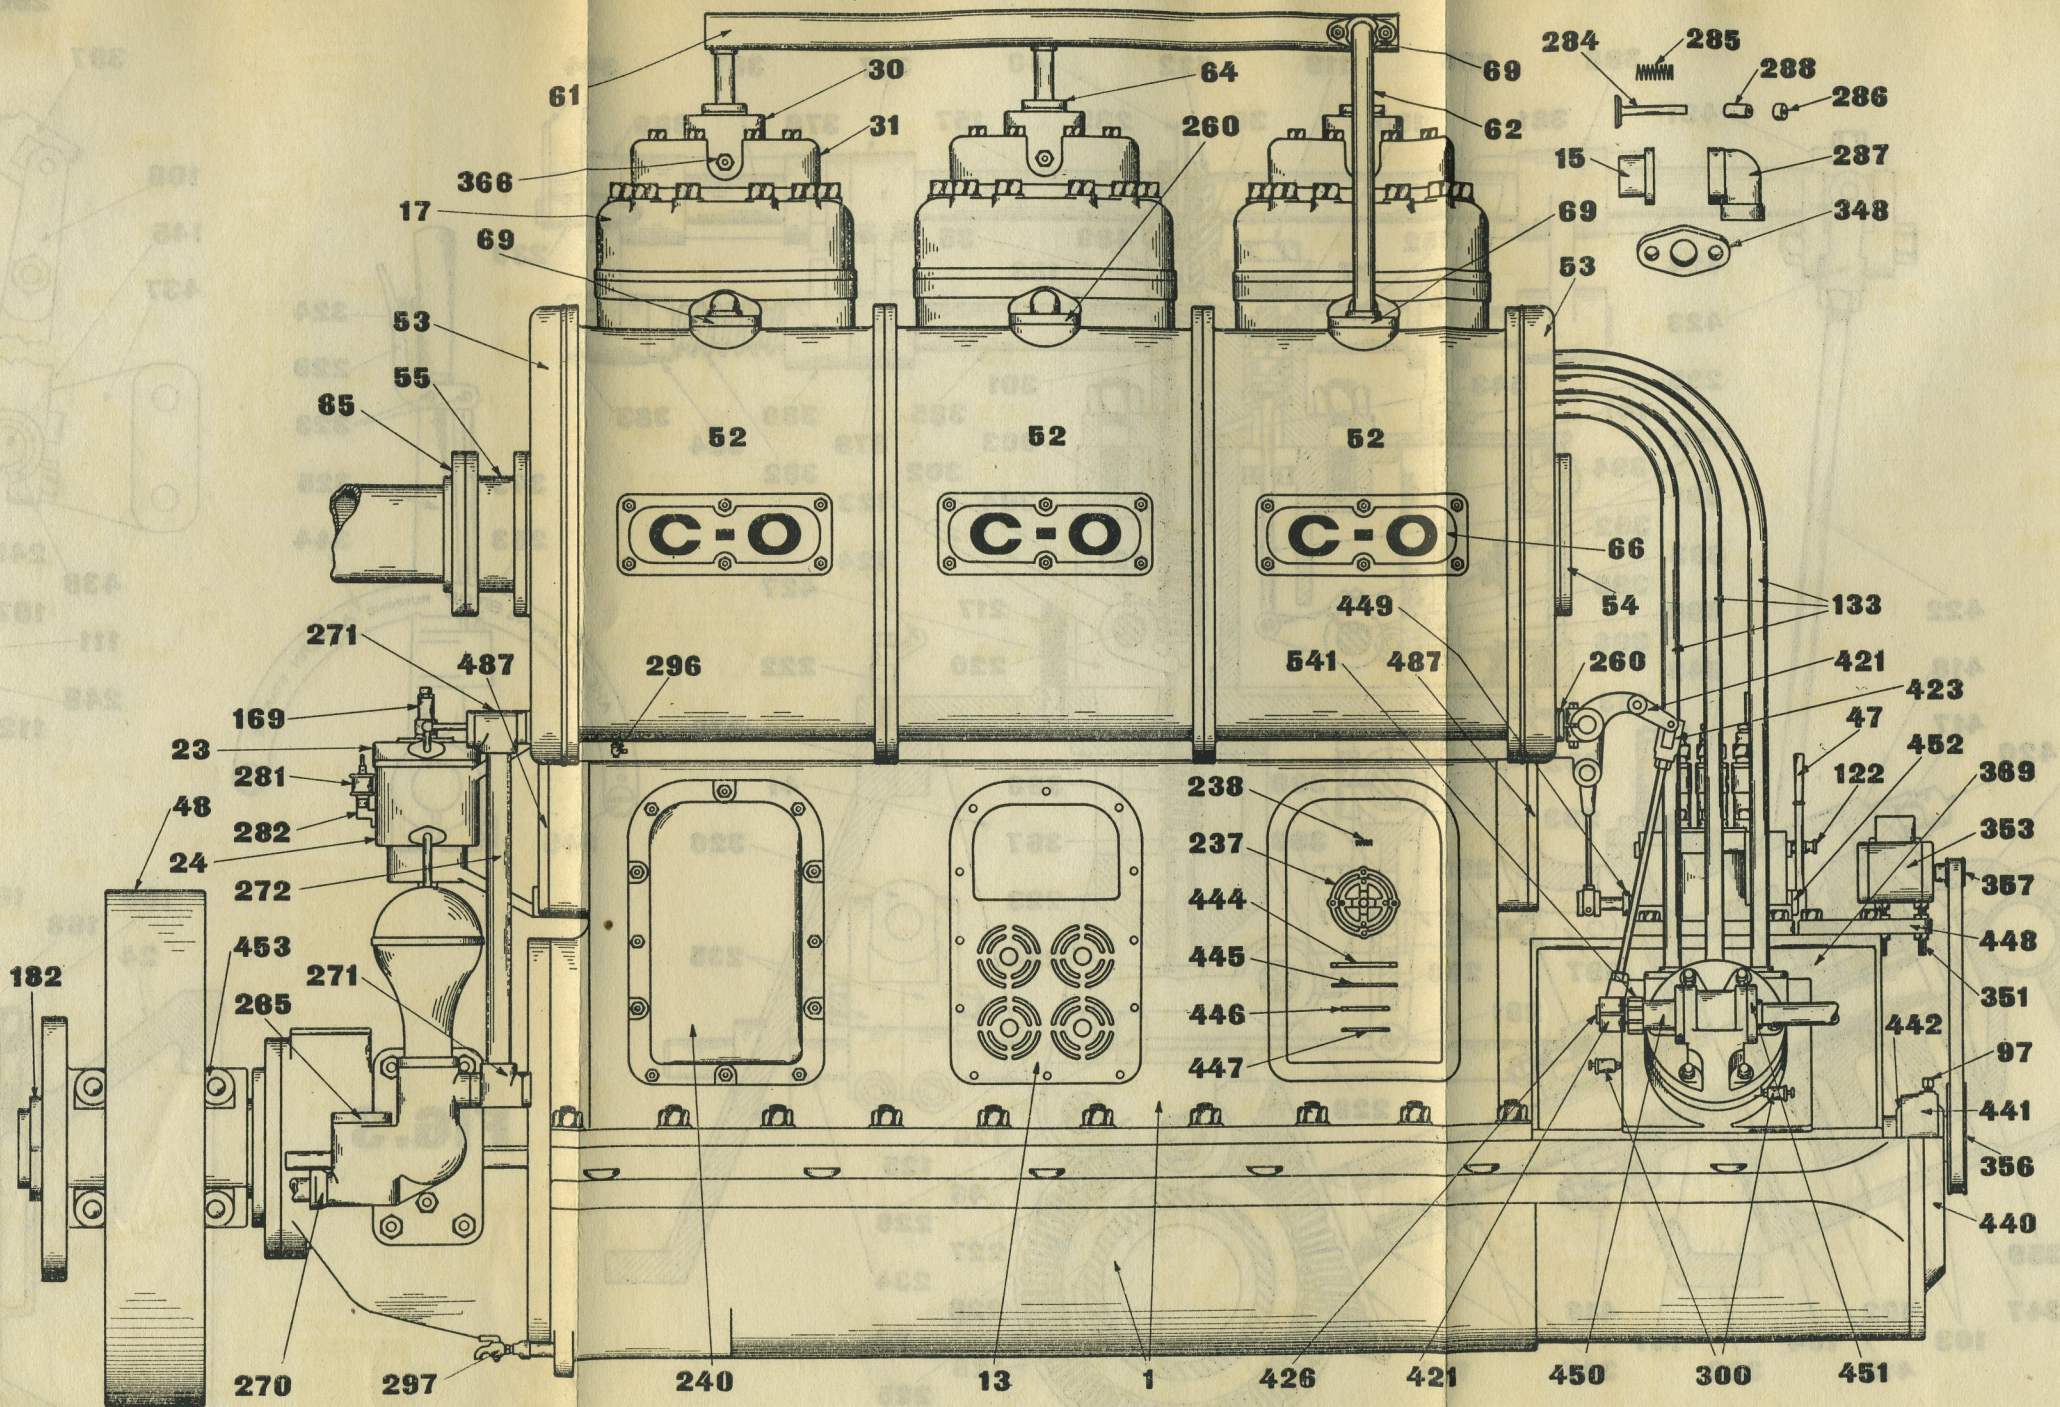

FIG. 2
bushing (442) (Figure 2.) If the end play becomes more than about $\frac{1}{32}$ " take off the sprocket (356) and remove some of the shims and replace the sprocket taking care to draw all nuts up even. In making this adjustment always leave at least $\frac{1}{64}$ " end play.